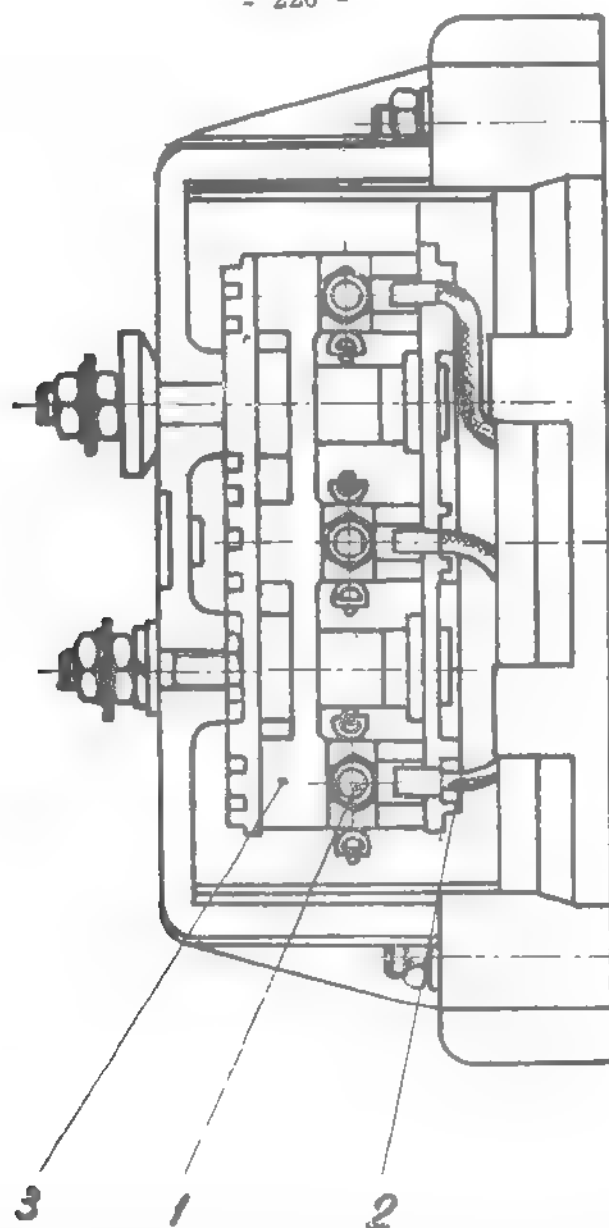

Fig. 4.41. DIODE-HOLDER AND TERMINAL ASSEMBLY.
- Unscrew the 3 nuts (1), for diodes connecting, placed under the cover and make free the leads (2) of stator winding (see Fig. 4.41).
- Unscrew the 3 nuts (1) - see fig. 4.41 - of the diode-holder (3) and remove the 3 terminals (2) of stator winding, also with a 7 mm wrench.